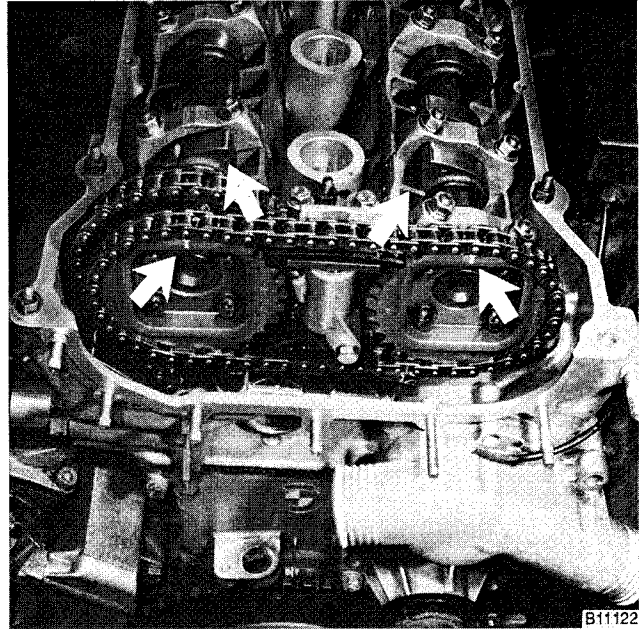

Fig. 38. Camshafts positioned at TDC—Cyl. No. 1 cam lobes face in Note 0/T mark (0°TDC) on vibration damper aligned with boss on front cover.
- Set engine to TDC by rotating engine in normal operating direction until camshaft lobes at cylinder no. 1 are facing each other and "0/T" mark (0°TDC) on vibration damper lines up with cast boss on lower timing chain cover. See Fig. 38.